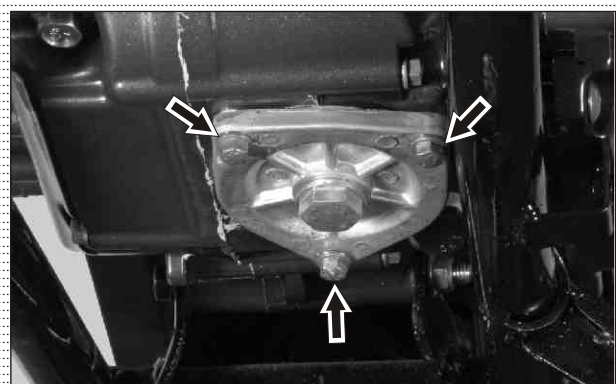

Fig. 2.34
- Loosen and remove hexagonal flange head bolts (M6x20 - 3 nos.). (Fig. 2.34)